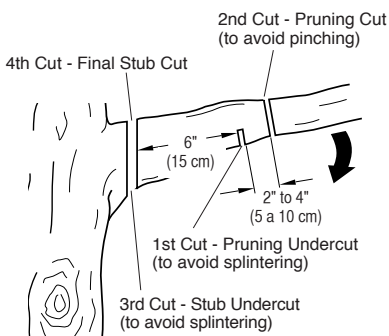

Figure 15 - Cutting a Limb
1. Make first cut six inches from tree trunk on underside of limb. Use top of guide bar to make this cut. Cut 1/3 through diameter of limb (see Figure 15).